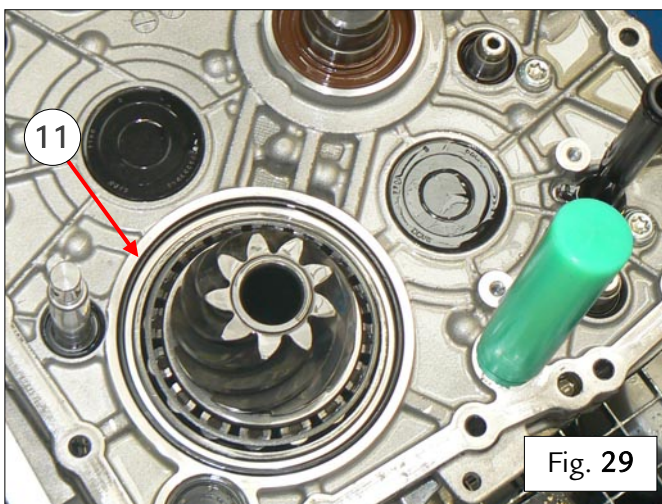

Fig. 29
- Remove the O-ring from the (11) interface plate – Fig. 29.